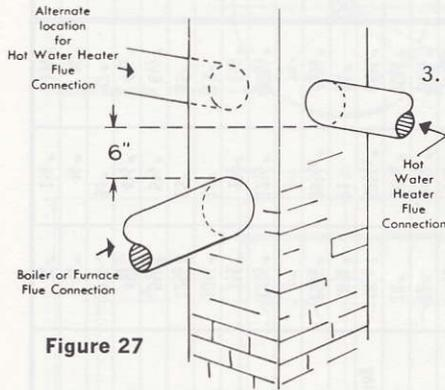

Figure 27
2. Locate unit in proximity to chimney to simplify piping. (See Figure 27). Position heater to allow for inspection of fire through observation port and for service to burner.
- B. Connect water heater flue to a chimney flue already being used for a boiler or furnace. In this case, preferred location of the opening into the chimney for the water heater flue is on a side adjacent to the boiler or furnace flue connection. The bottom of the water heater flue connection should be 6" above the boiler or furnace flue connection. See Figure 27. This hook-up may not require a draft regulator in the water heater flue provided a draft regulator is installed in the boiler or furnace flue. It should be adjusted with both the burner for the boiler or furnace and the burner for the water heater operating simultaneously. If draft cannot be controlled in both units while operating simultaneously, a draft regulator should be installed in the water heater flue.